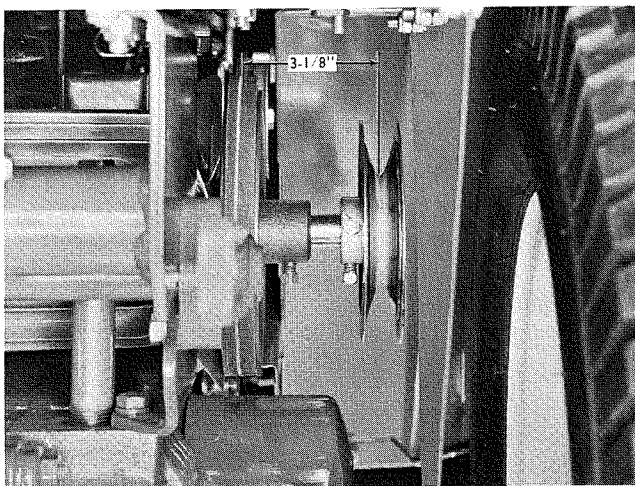

FIGURE 1
4. Position the tiller drive pulley to provide a distance of $3\frac{1}{8}$ " center-to-center between the belt grooves of the two pulleys. See Figure 1. Tighten the tiller pulley set screws.